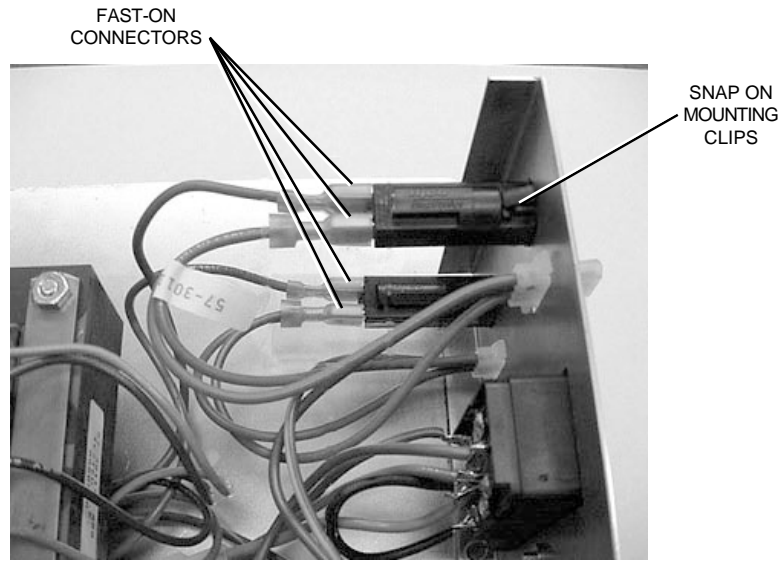

Figure 2
2. Disconnect the Fast-On connectors from existing 2-amp circuit breaker. *Refer to Figure 2.*
3. While pressing the circuit breaker plastic mounting clips, remove the existing 2-amp circuit breaker from the enclosure. Refer to Figure 2.